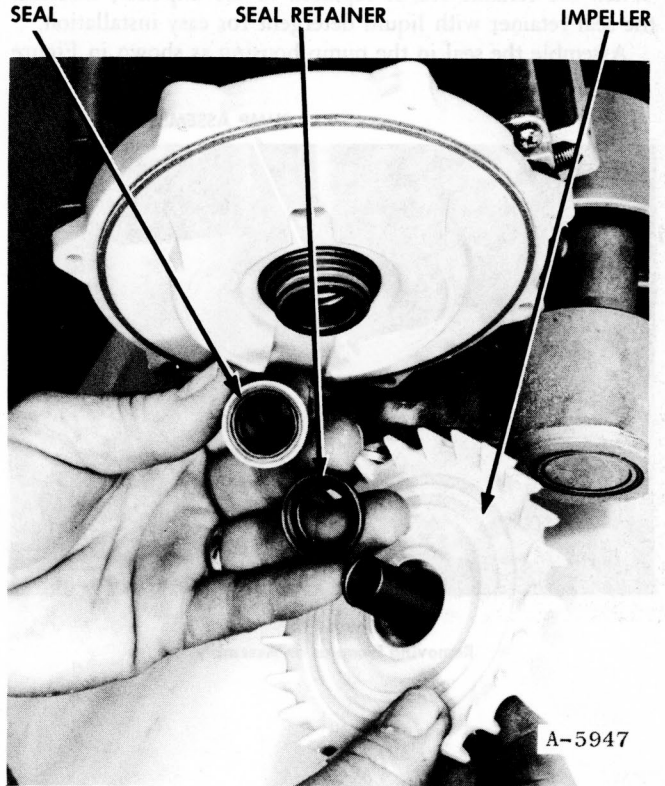

Figure 113
6. Remove the impeller from the drive shaft. Figure 113 and 114 shows assembly detail.